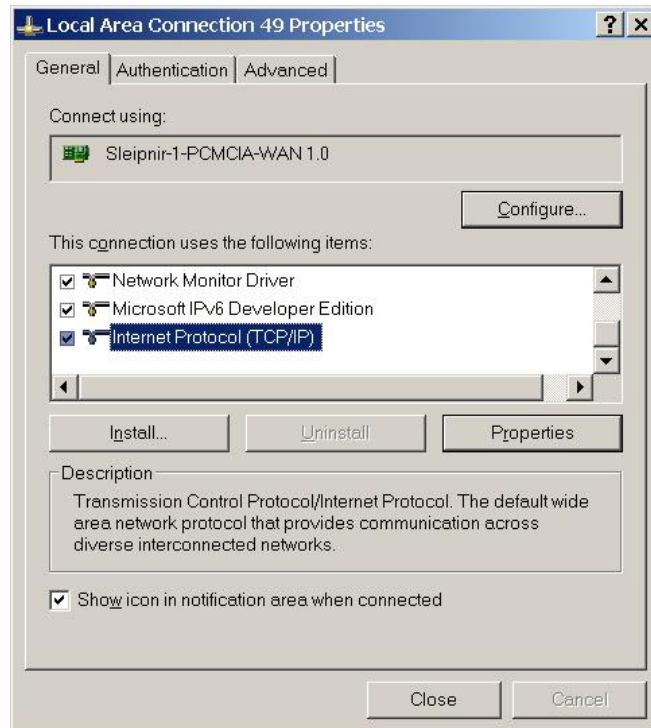

Figure 6 Sleipnir Local Area Connection
- Verify that at least ‘Client for Microsoft Networks’ and ‘Internet Protocol (TCP/IP)’ are included under the “This connection uses the following items” area. See Figure 6 Sleipnir Local Area Connection.